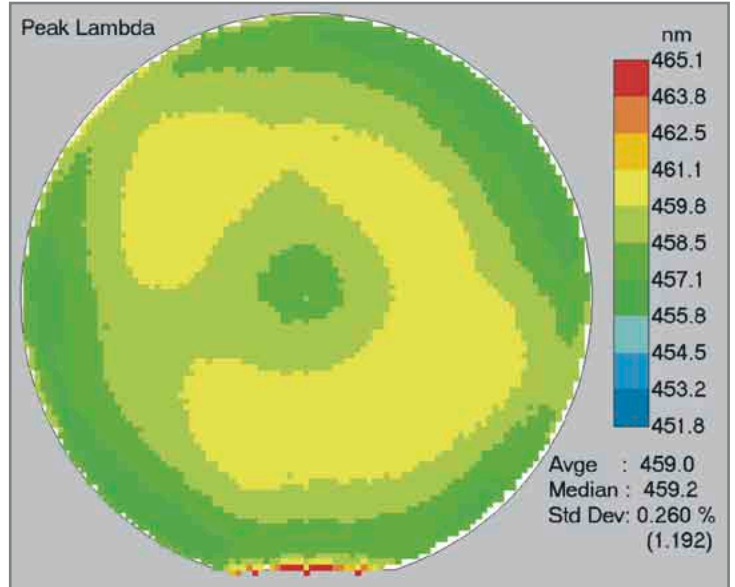

Figure 5: Room temperature photoluminescence (PL) plot of a GaN LED structure grown on a 4" substrate (11x4" configuration)
largest production scale reactors for processing GaN based LEDs. The gas injector features multiple gas inlets for advanced deposition uniformity control, a symmetric and uniform gas flow to guarantee wafer-to-wafer reproducibility and thermal control of the injector, to prevent premature gas phase reactions. As an example for the improved performance resulting from this new design, Figure 5 shows a photoluminescence (PL) map of an LED structure that was grown on a 4" substrate (11x4" configuration). Revealing a uniformity of approximately 1 nm only, it is impressive proof of the very high yield obtained with this reactor and gas inlet design.